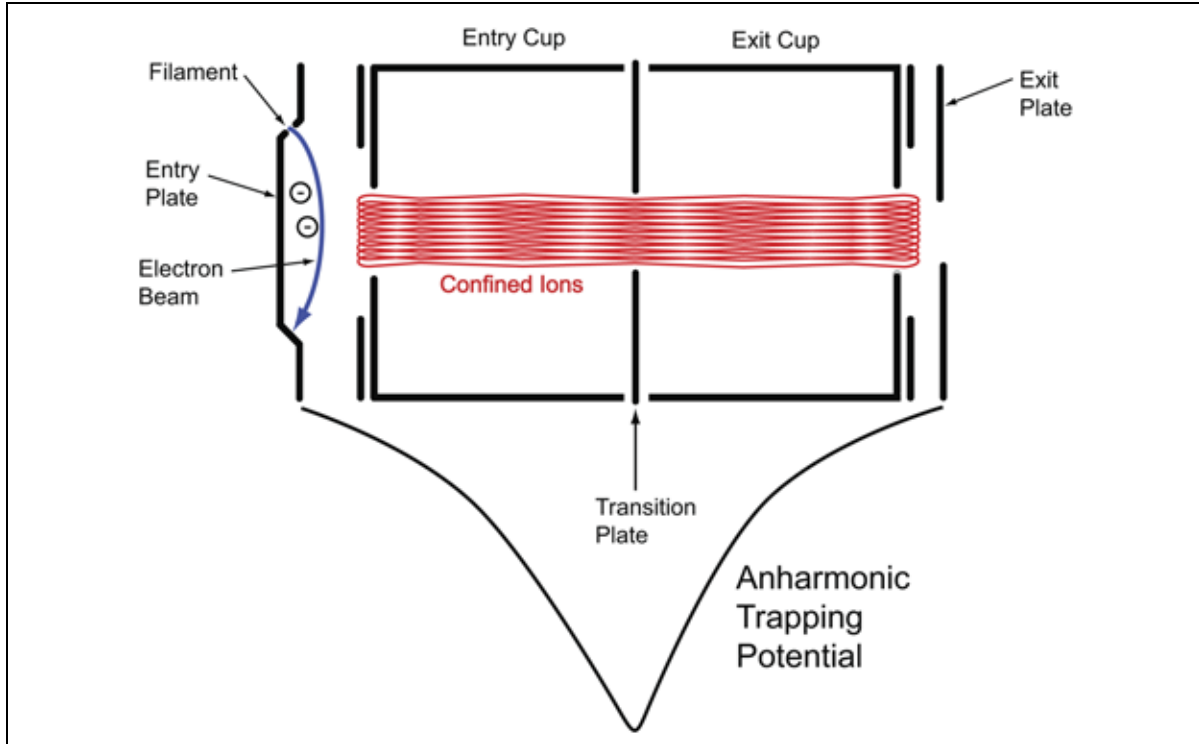

Figure 6-9 Cross Section of MS Gauge and Electrostatic Trapping Potential Well
Figure 6-9 illustrates a cross section of the ion trap electrode assembly. The blue arrow depicts the path of the electron beam, and represents how ions are created between the entry plate and entry cup, directly inside the trap volume. During operation, the filament is always powered, providing continuous ionization. Notice that the electrons are thermionically generated outside the ion trap (hot filament source), but directed into the ion trap volume through an off-axis aperture located on the entry plate.
Figure 6-9 also illustrates a potential curve depicting the negative high voltage (-HV) trapping potential well that develops along the cylindrical axis of the trap. The purely electrostatic ion trap confines the ions of different mass-to-charge (M/q) ratios and kinetic energies within an anharmonic potential well. Ions of all masses and a wide range of initial energies oscillate along the cylindrical axis of the trap, confined by the electrostatic potential well. The red trace depicts the oscillatory path for a single ion (modeled by SIMION™) and demonstrates that radial focusing of the ion motion along with uniaxial oscillation are responsible for providing stable oscillatory trajectories (i.e. ion confinement). The natural oscillation frequency (NOF) of an ion in such a potential well depends on the amplitude of oscillation and results in anharmonic oscillatory motion. This means that the NOF of a specific ion trapped in such potential well is determined by four factors: (1) the details of the trap geometry (i.e., mechanical design), (2) the ion's mass-to-charge ratio (M/q), (3) the ion's instantaneous amplitude of oscillation (related to its initial energy), and (4) the depth of the potential trap defined by the voltage gradient established between the mirror electrodes and the transition plate. The depth of the potential well (i.e., between the end plates and the transition plate), under factory default settings, is -685 V. The exact shape of the electrostatic trapping potential well is defined by the combination of trap geometry and bias voltages.
5. For a typical electrostatic ion trap with a negative nonlinear potential (such as depicted in Figure 6-9), the oscillatory amplitudes become larger and the ions oscillate closer to the end plates as energy is transferred from the RF field into the oscillatory system. Eventually, the oscillation amplitude of the ions exceeds the length of the ion trap and the ions leave the trap through the semi-transparent mesh of the exit plate. Setting the bias potential of the exit plate a few volts lower than the entry plate assures that all ions excited through autoresonance are ejected from the trap exclusively through the exit plate mesh (lower energy) instead of the entry plate (higher energy).
Positive ions are formed inside the ion trap volume in an ionization region located between the entry plate and the entry cup as illustrated in Figure 6-9. Electrons are thermionically generated outside the ion trap (hot filament source) and directed into the ion trap volume through an off-axis slit located on the entry plate. A fraction of the positive ions are confined inside the ion trap volume by the electrostatic potential well. The rest of the ions that are not confined by the electrostatic potential well and are mostly lost to neutralizing collisions with the pressure plate.